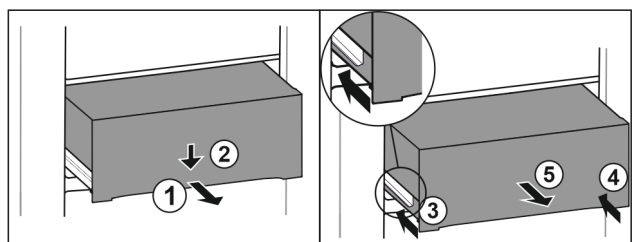

Fig. 179
- ▶ Pull out drawer half-way. Fig. 179 (1)
- ▶ Push the drawer down at the front. Fig. 179 (2)
- ▶ Push the left rail in by about 2 cm. Fig. 179 (3)
- ▶ Push the right rail in by about 2 cm. Fig. 179 (4)
- ▶ Remove drawer to the front. Fig. 179 (5)